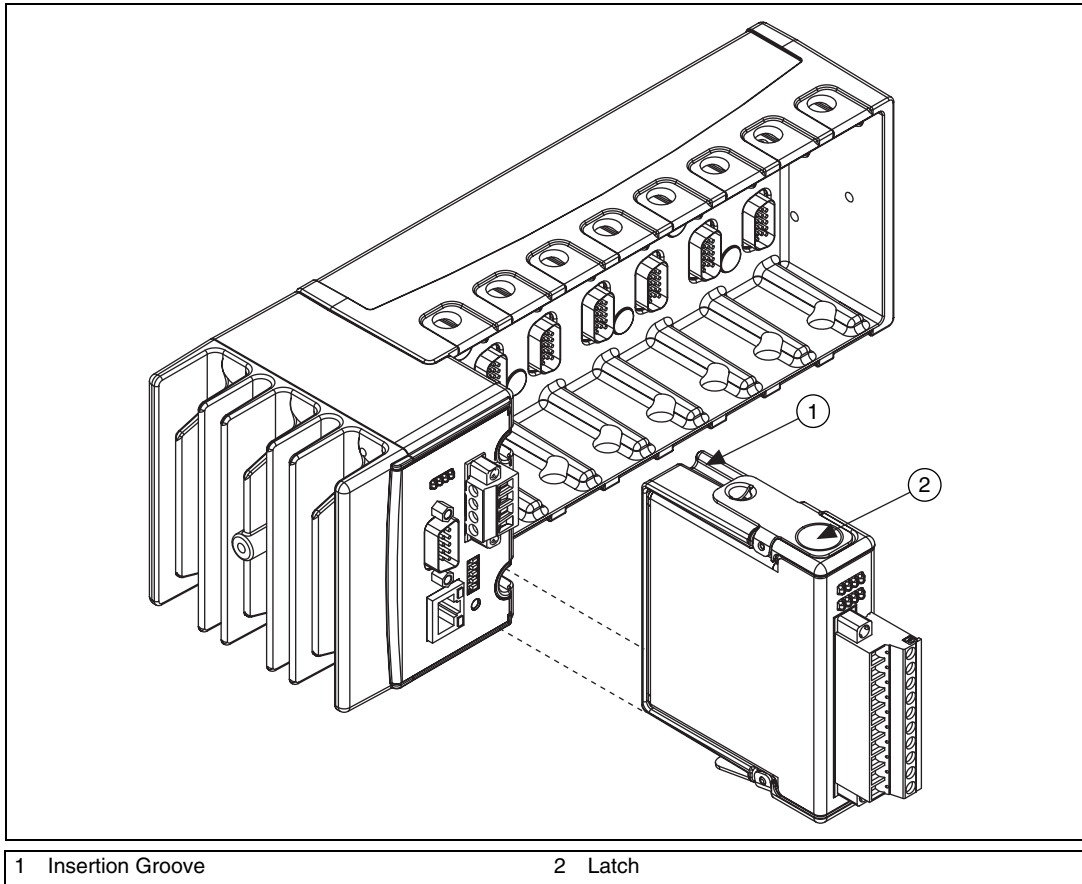

Figure 14. Installing an I/O Module in the Chassis (Eight-Slot Chassis Shown)
2. Align the I/O module with an I/O module slot in the chassis as shown in Figure 14. The module slots are labeled 1 to 8, left to right.